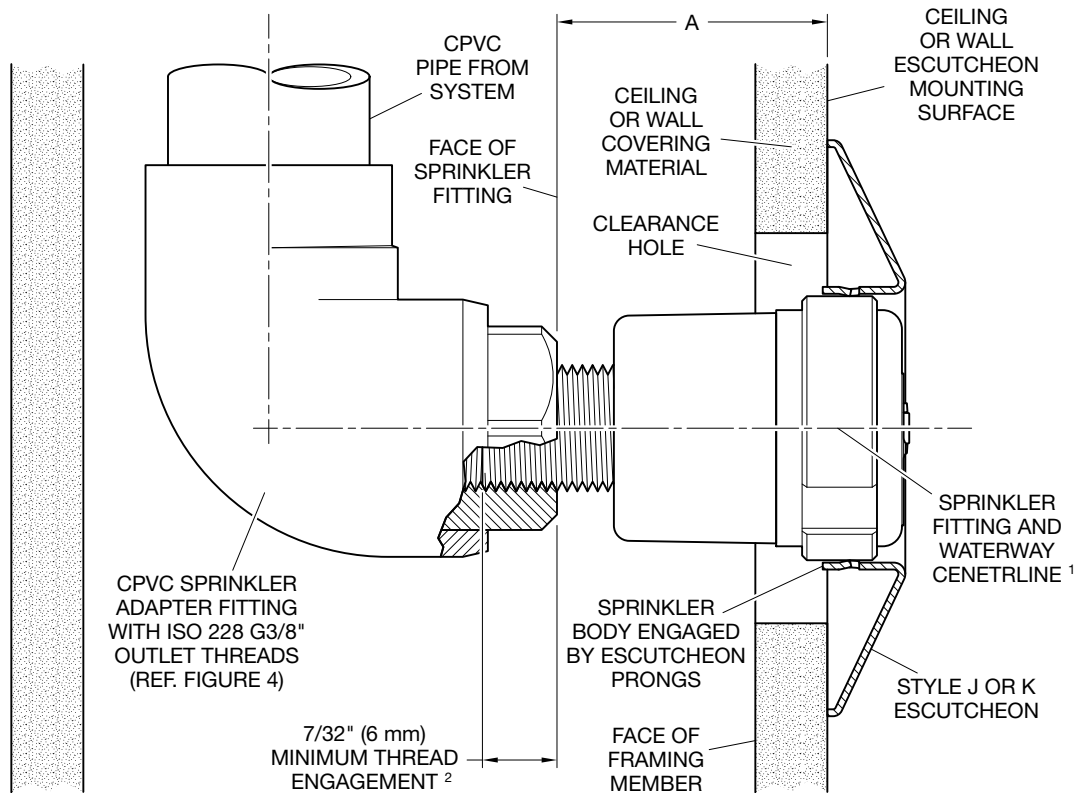

**FIGURE 5
**Step 2.** Install sprinkler fitting with face located at proper distance from escutcheon mounting surface (Ref. Figures 5 or 6, Dim. A).